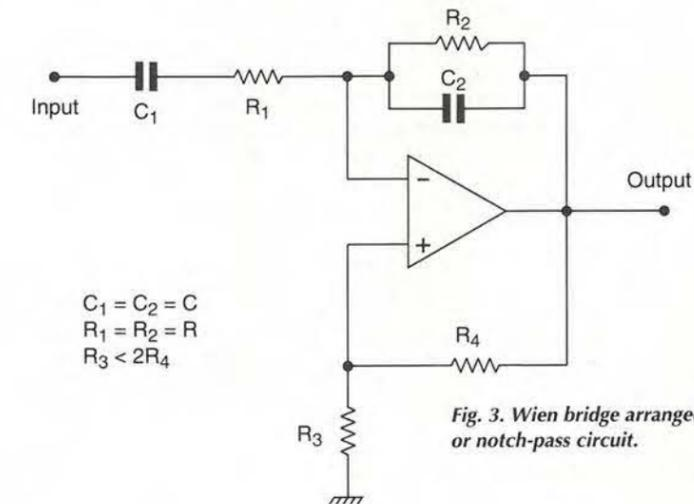

Fig. 3. Wien bridge arranged as a selective amplifier or notch-pass circuit.
**A selective amplifier...** The Wien bridge also lends itself to a very convenient notch-pass or selective band-pass arrangement, Fig. 3.
...and an oscillator. If the series and shunt CR arms in Fig. 3 are interchanged, and the input short circuited, you have the basic conventional Wien bridge oscillator. But the Fig. 3 arrangement would also make a usable sine-wave oscillator, provided  $R_3$  includes a resistor with a negative temperature coefficient, such as a thermistor. Alternatively,  $R_4$  could have a positive temperature coefficient provided for example by a very low wattage filament lamp.